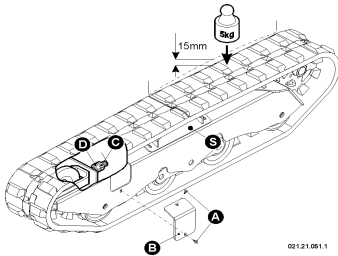

Fig. 52 - Track tension adjustment
- Check that the camber is 15mm near the front or rear centre line with respect to the central guide “S” of the track (see fig. 52);
- Check that the camber is 15mm near the front or rear centre line with respect to the central guide “S” of the track (*see fig. 52*);